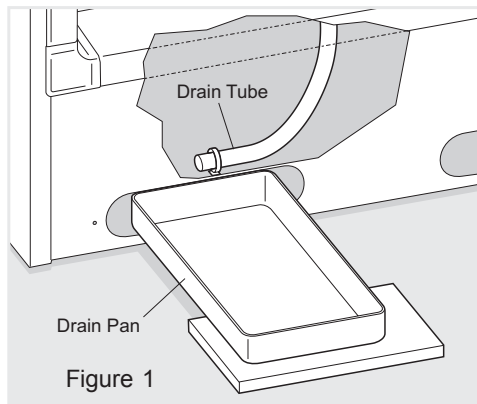

Figure 1
- **On upright models** with a defrost drain (Figure 1), remove drain plug on the inside floor of the freezer by pulling straight out. To access external drain tube on models with a base panel, first remove the two screws from the base panel. Locate the drain tube near the left center under the freezer. Place a shallow pan under the drain tube. Defrost water will drain out. Check pan occasionally so water does not overflow. A  $\frac{1}{2}$  inch garden hose adapter can be used to drain the freezer directly into a floor drain (Figure 3). If your model is not equipped with an adapter, one can be purchased at most hardware stores. Replace the drain plug when defrosting and cleaning are completed. If the drain is left open, warm air may enter freezer.